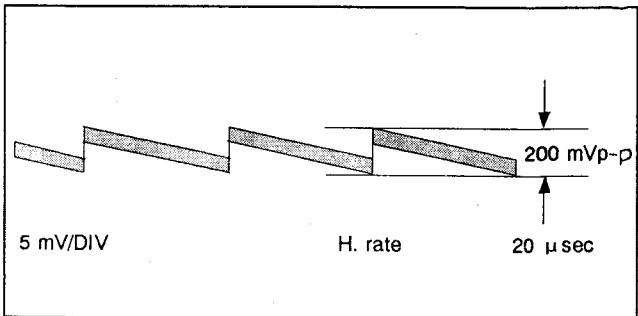

Fig. 3-11-2 REC PLL (17 MHz)
2. Adjust L206 so that the waveform level is 200 mVp-p or less as shown in Fig. 3-11-2.